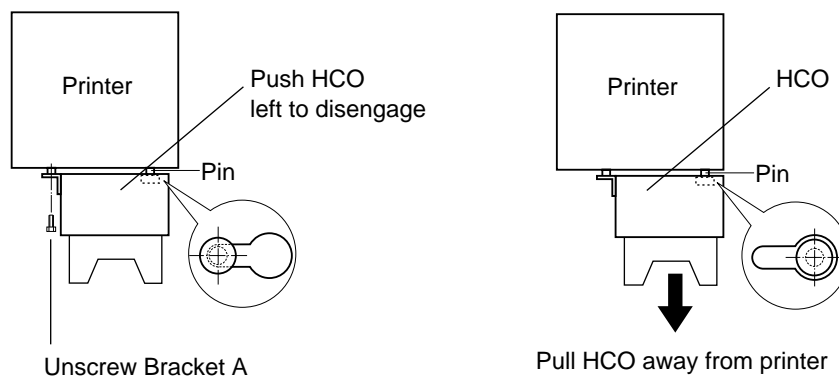

Figure 3-69 Printer connecting pin and HCO positioning hole configuration
2. Figure 3-69 shows detailed look at the connecting pin and the positioning hole.